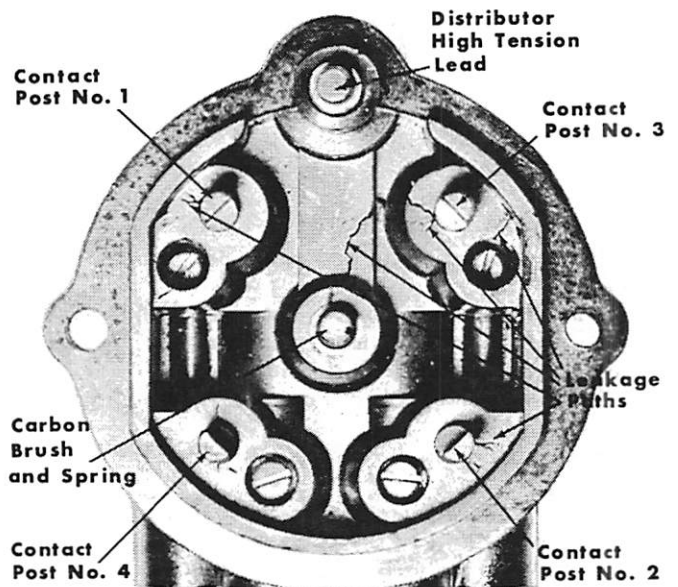

Figure 4. Magneto Cap Leakage Paths
3. A surface leakage path usually can be located because of the burning effect the high voltage spark has on plastic or other insulating materials. (Figure 4)
5. If leakage path is heavy - or more than one path occurs (Figure 4) - it is recommended that the part be discarded. When making leakage test, be sure that high tension clips are removed from high tension leads to assure an accurate check.